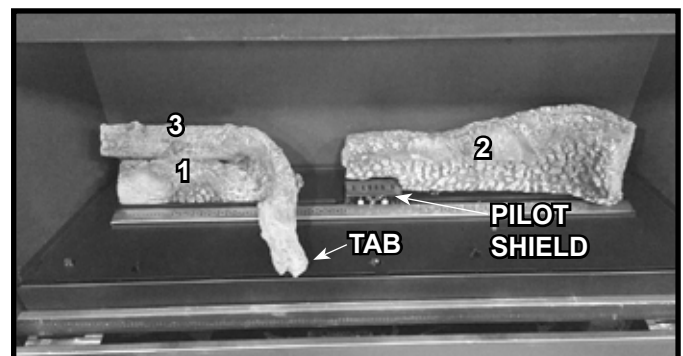

Figure 5 Place Log #3
6. Install Log #3 by resting it on top of Log #1. Log #3 will cross the burner and rest on the front lip of the basepan. Right side of log will contact log tab. See Figure 5.